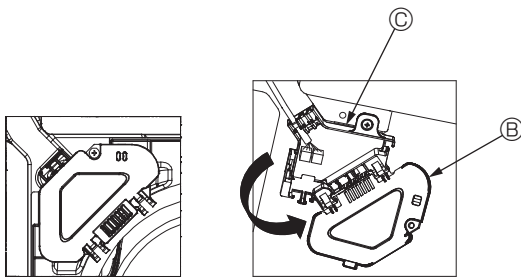

Fig. 7-5
③ Remove the one screw securing the connector box cover, and then open the cover. (Fig. 7-5)
④ Place the junction wire connector in the connector box.
⑤ Install the wire cover and connector box cover.